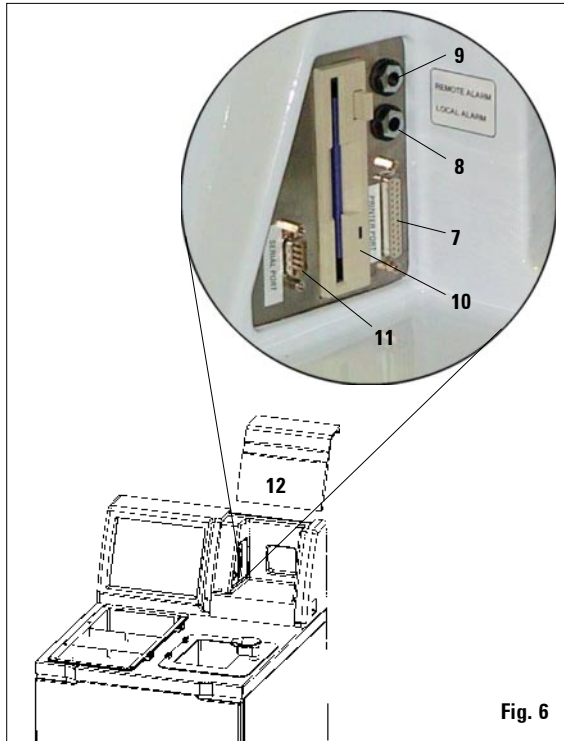

Fig. 6
- Lift off the instrument console flap (12).
- Connect the printer to the printer port (7) via a standard Centronics cable (refer Fig. 6).